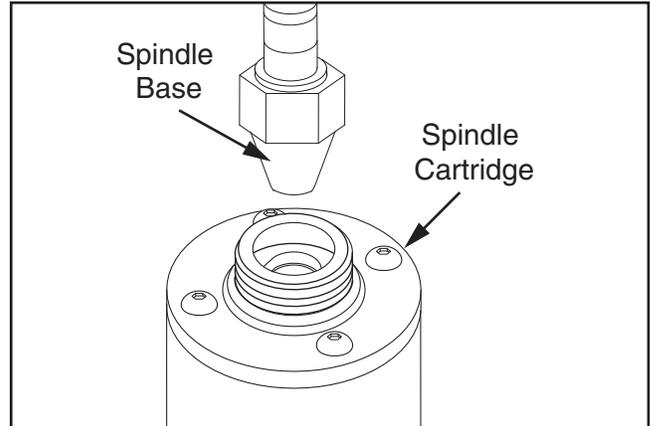

Figure 15. Inserting spindle into place.
2. Insert spindle base into spindle cartridge (see **Figure 15**). Thread the spindle nut onto the cartridge approximately 1 turn.